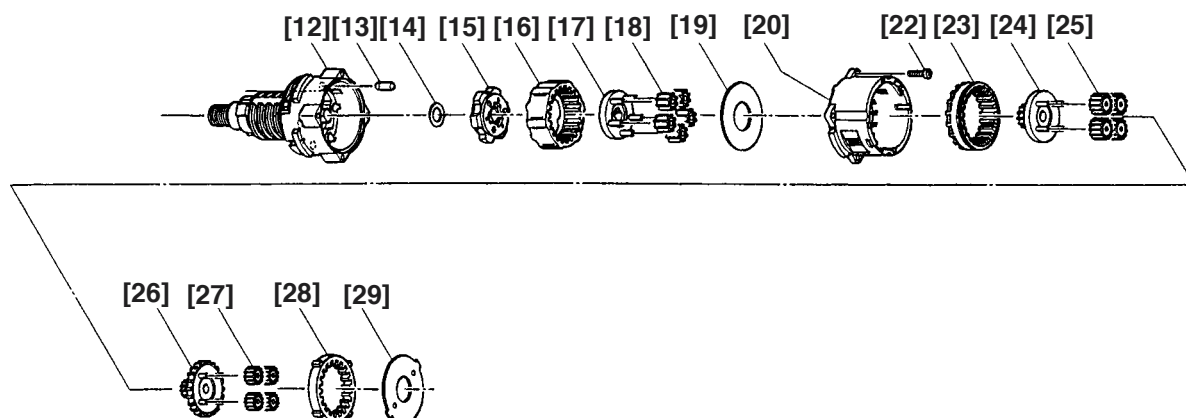

Fig. 8
(b) Mount the parts from the Pin Set (6 pcs.) [13] to Washer (B) [29] to the part assembled in the above (2) in order (see Fig. 8).
- ④ Pay attention to the mounting direction of the Ring Gear [16], Slide Ring Gear [23], Pinion (C) [24] and Pinion (B) [26] (see Fig. 8).
- ① Mount the Shift Arm [21] to the protruded side of the Rear Case [20]. At this time, insert the protrusion of the Shift Arm [21] into the hole of the Rear Case [20] and check that the protrusion is inserted into the groove of the Slide Ring Gear [23] that is mounted in the Rear Case [20] (see Fig. 8).
- ② Insert the Shift Arm [21] into the groove of the Shift Knob [42] facing "LOW" indication on the Shift Knob [42] backward.